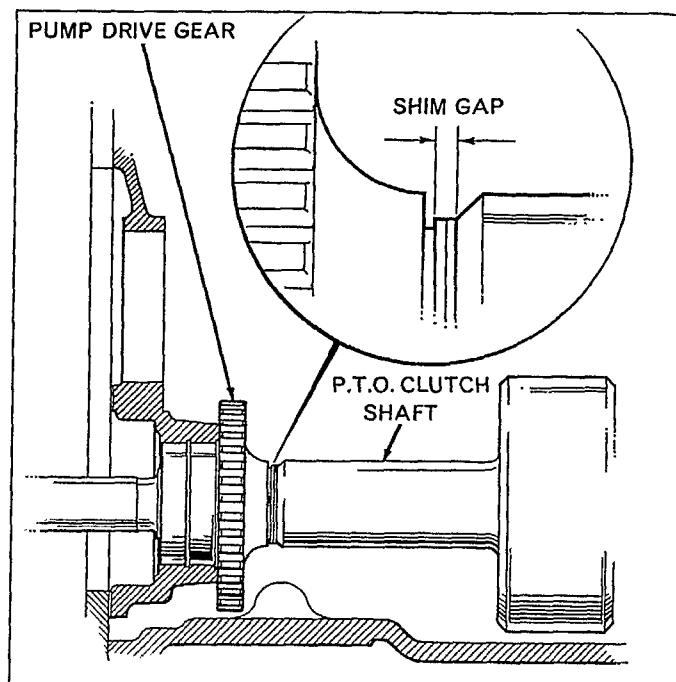

Figure 8
- Through the hydraulic pump opening in the rear axle centre housing use feeler blades to measure the gap between the hydraulic pump drive gear lock ring and the independent P.T.O. shaft, Figure 8.